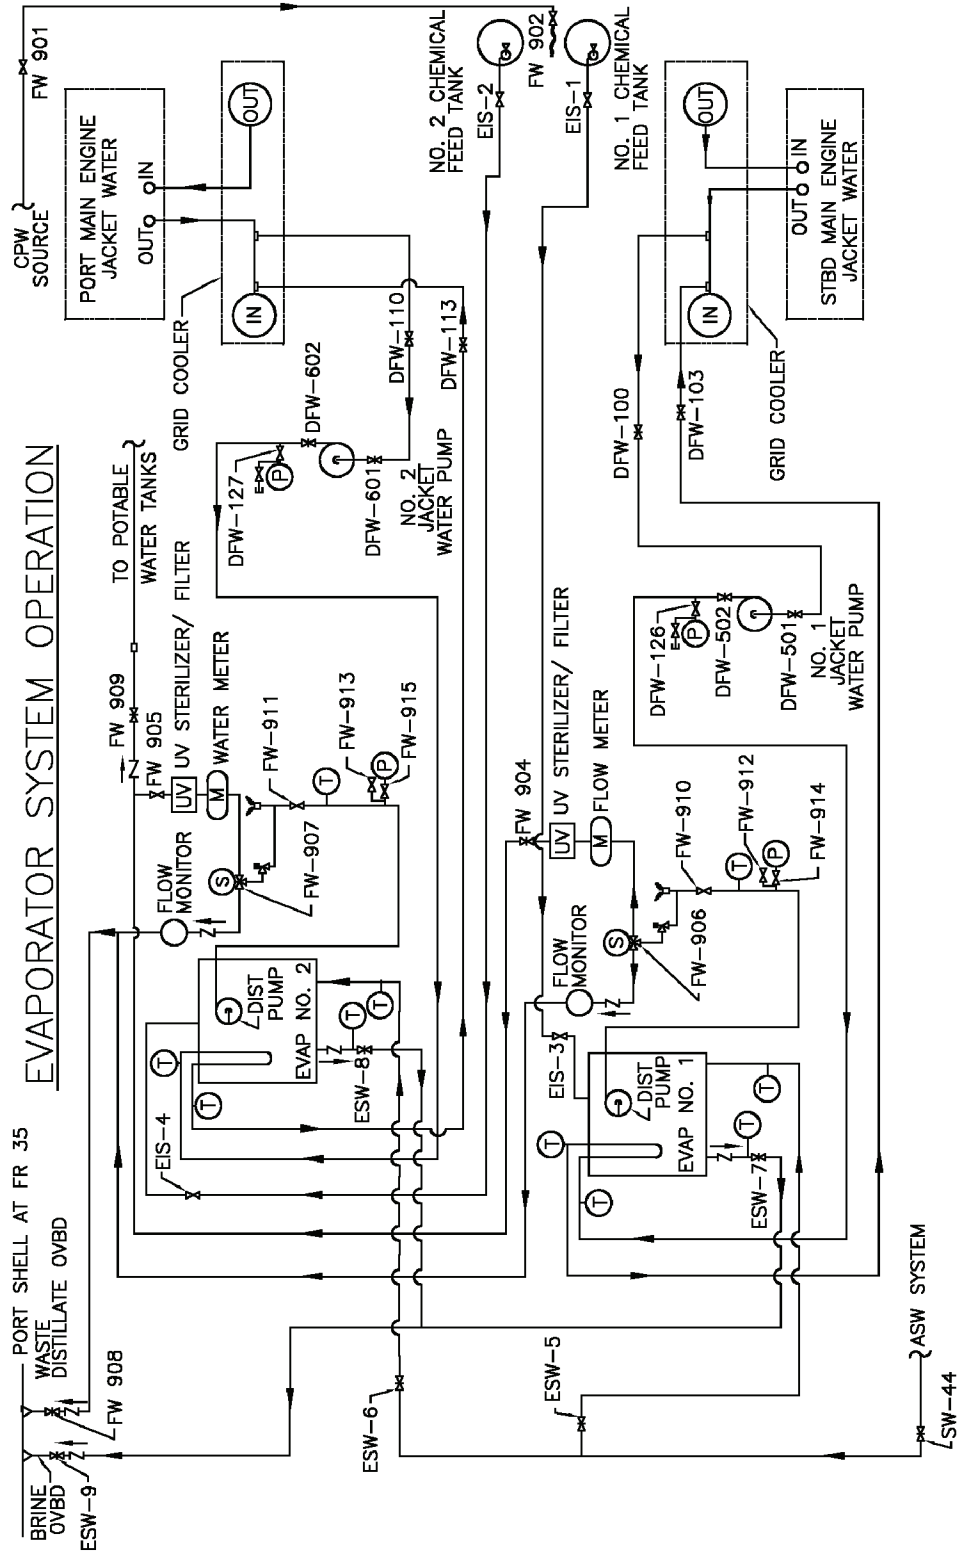

Figure 2-2. Waste Heat Evaporator.
2-11. Waste Heat Evaporator Model HJ20C. (Figures 2-2 through 2-4)
- (2) Open the auxiliary seawater piping SW-44 (Figure 2-2) and the seawater feed valve: